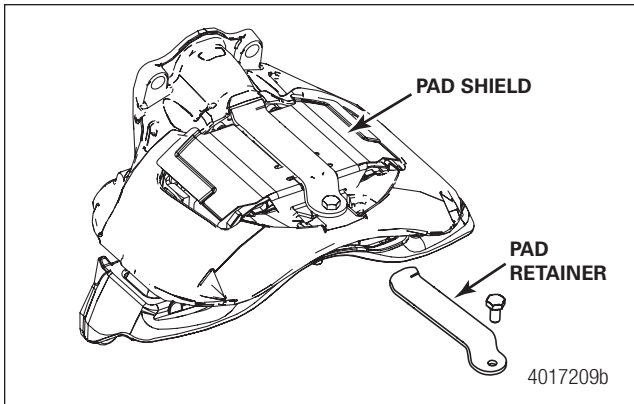

Figure 6.23 Pad Shield and Pad Retainer
- Install the pad retainer on the brake. Prior to installation, inspect pad retainer for damage and replace if necessary. Figure 6.23.